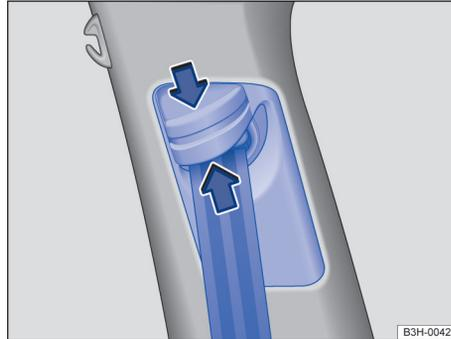

Fig. 31 Next to the front seats: seat belt height adjuster.
- Press and hold the shoulder belt guide as indicated by the arrows → Fig. 31.